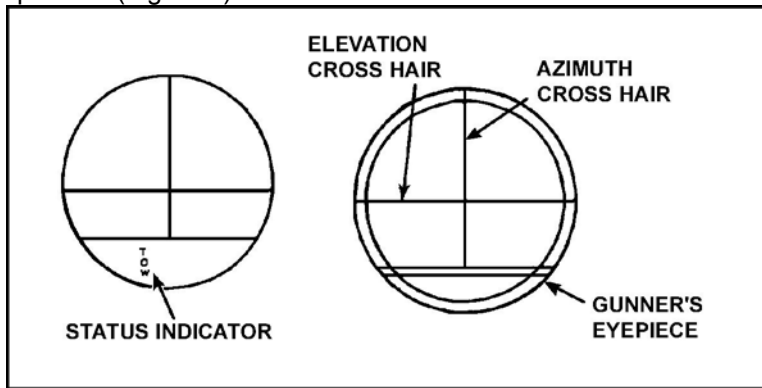

Figure 5. TOW status indicator.
10. Move the gun elevation drive select lever to power position and move the turret traverse drive select lever to manual position (Figure 5).